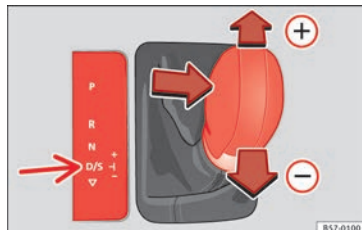

Fig. 199 Centre console: changing gear with tiptronic
- Move the selector lever forwards  to select a higher gear **»» Fig. 199**.